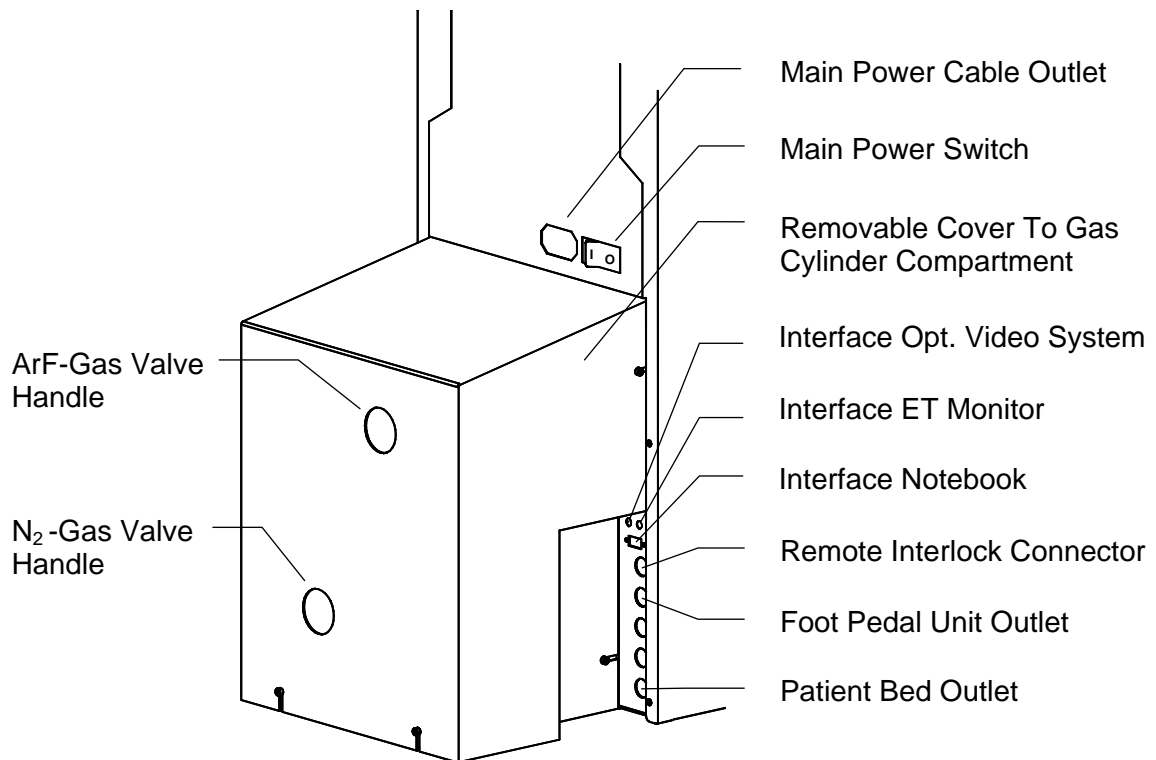

Figure 5: Elements On The Rear Side Of The Device
- The laser system is equipped with a remote interlock connector that can be connected to the door of the treatment room so that the laser will stop firing if the door is opened during a treatment (see chapter 4.3 “Switching Elements And Interfaces”, figure 5 “Elements On The Rear Side Of The Device” on page 27).
Then switch on the unit at the Main Power Switch located at the rear side of the laser console (see figure 5 “Elements On The Rear Side Of The Device” on page 27).